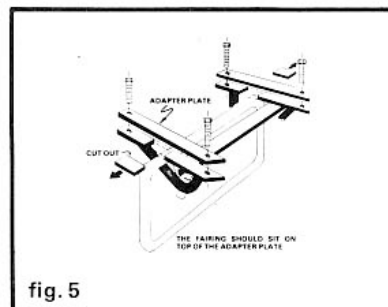

fig. 5
1. Turn the front wheel to the side and slide the bracket up along the frame. Position the bracket on the frame down-tubes below the steering head. On motorcycles equipped with open loop crashbars, completely remove the crashbar from the bike and "thread" the crashbar through the side hoops of the fairing bracket. **Crashbar Note:** Using a closed loop crashbar requires cutting two sections out of the mounting bracket and adding two adaptor plates (except for late model BMW's which already have this modification provided from our factory). A crashbar kit can be ordered from Vetter Fairing Co. The kit includes two adaptor plates and four longer mounting bolts - see figure 5.